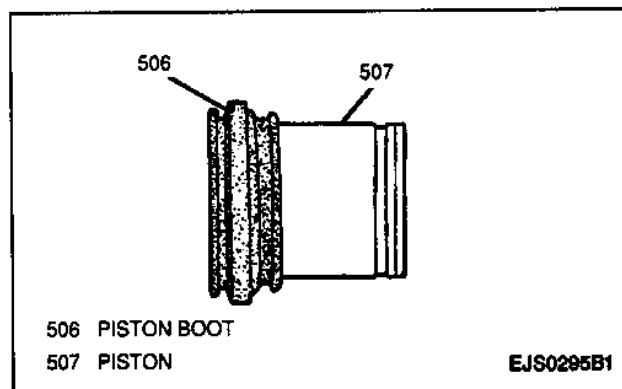

Figure 16—Piston with Piston Boot
4. New piston boot onto piston (Figure 16).